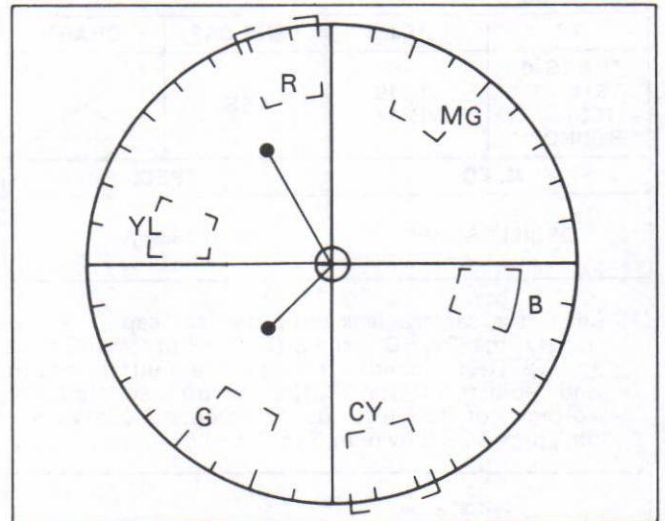

Fig.C21
- (1) Set the White Balance Switch on the Camera Operation Unit to the "OUTDOOR".
- (2) Connect the jumper wire among TP511, TP512 and TP513 on Process C.B.A. to cut the R-Y, B-Y feed back loop.
- (3) Aim the camera at the White Chart (lighting should be 3200 degrees K Halogen lamp.)
- (4) Supply the video signal to the vectorscope.
- (5) Attach the colour temperature conversion filter (VFK0374 and VFK0375) which convert 3200 degrees Kelvin to 5600 degrees Kelvin in front of the lens (Refer to Note 1).
- (6) If the colour temperature conversion filter is not available, use a day light source. (Refer to Note 2)
- (7) Adjust the White Balance (B-Y) Outdoor Gain and White Balance (R-Y) Outdoor Gain Controls (VR528 and VR 529) so that the colour vectors move to the centre of screen on the vectorscope. (Refer to Fig. C21)
- (8) Remove the colour temperature conversion filter with the fixture from the lens.
- (9) Remove the jumper wire from TP511, TP512, TP513.